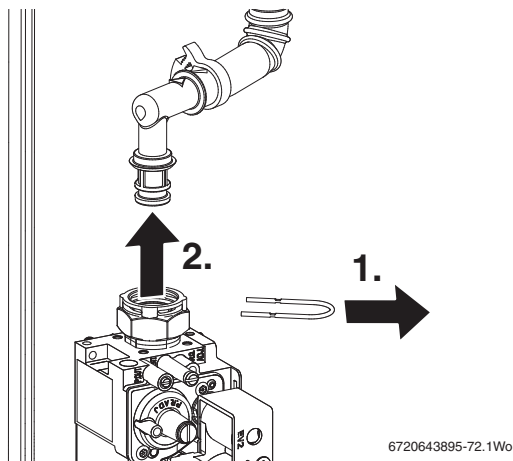

Fig. 72 Gas valve upper connection
1. Refer to figure 72 and remove the wire clip from the gas valve outlet.
- ▶ Remove wire clip from gas valve outlet then pull gas pipe free from the gas valve (see figure 72).